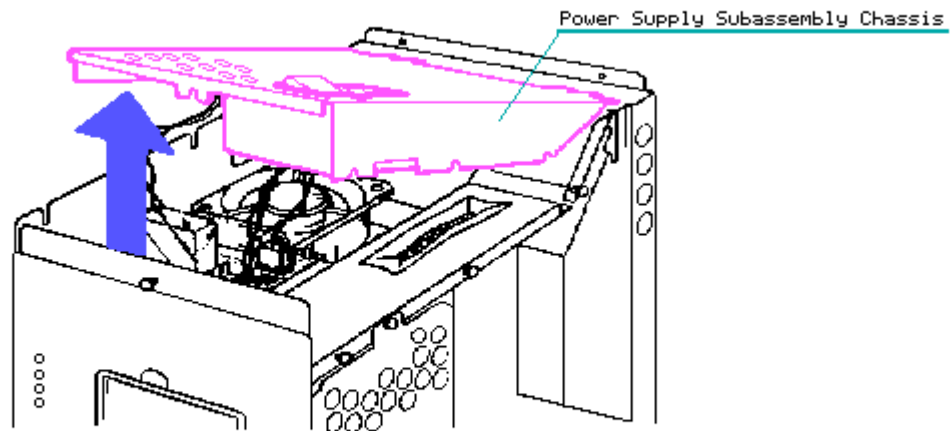

Figure 7-19. Removing the Power Supply
5. Remove the power supply subassembly chassis by lifting the rear portion of the chassis upward. As this end is raised, lift the front portion of the chassis until the entire power supply chassis is free of the system chassis (Figure 7-19).